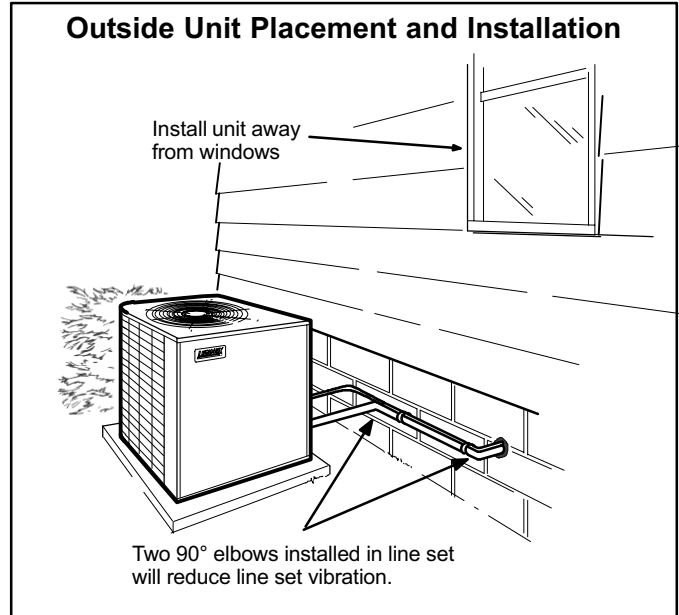

Figure 9
- 1. Placement**—Be aware some localities are adopting sound ordinances based on how noisy the unit is at the neighbors' home, not at the original installation. Install the unit as far as possible from the property line. When possible, do not install the unit directly outside a bedroom window. Glass has a very high level of sound transmission. Figure 9 shows how to place the outdoor unit and line set.